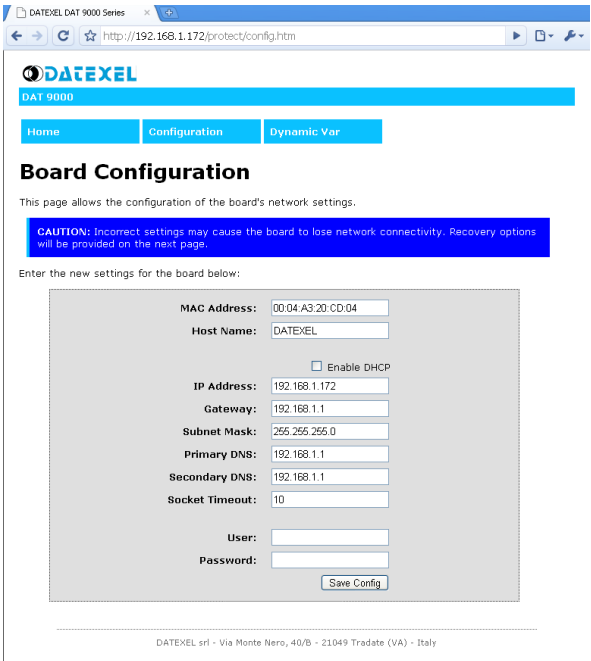

Fig. 6.12
- **Configuration** (Fig.6.12) (<http://192.168.1.172/protect/config.htm>): allows to modify the TCP settings (IP address , Subnet mask, Gateway, etc...). Clicking on the “*Save Config*” button, the parameters set will be saved in Eprom and the Controller will be resetted. It is possible to protected this page by Password, modifying the fields “*User*” and “*Password*” and click on the “*Save Config*” button. WARNING!!in case of lost Password, the user won't be able to get back the information.